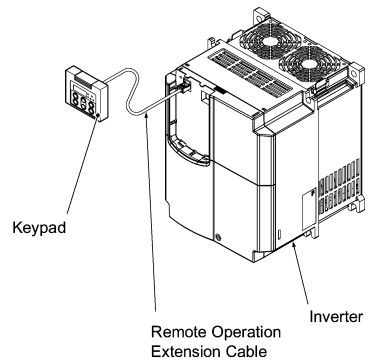

Figure 2.31 Installing it at a Remote Site (e.g. for Operation on Hand)
- Installing a keypad at a remote site (e.g. for operation on hand) (Refer to Figure 2.31.)